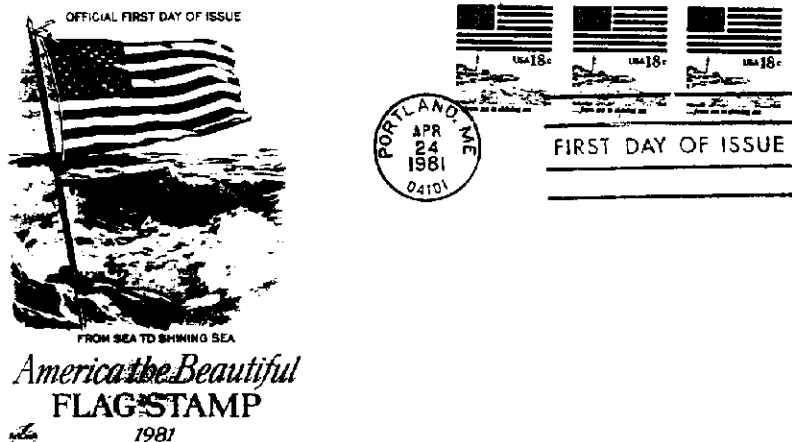
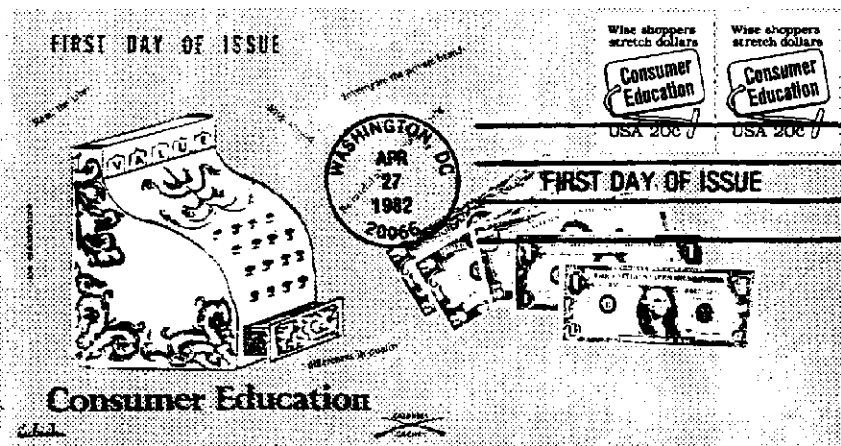

Figure 1: Cachets are usually only at the left.
Figure 2: In exceptional cases, cachets cover the entire envelope.
3) The cover should have a cachet (pronounced ca-SHAY). This is a printed design on the envelope. The design should be related to the stamp. Although usually printed only at the left side of the envelope (Fig. 1), in the last few years some cachet makers have tended to produce complete, overall designs (Fig. 2).
2) If possible, there should be at least a strip of three with the number on the center stamp. For the earlier issues of PNCs, this is very difficult. Most FDC servicers followed the older tradition that coils be collected in pairs with the joint line at the center. Such early issues, with strips of three or five, command a premium (Fig. 1).